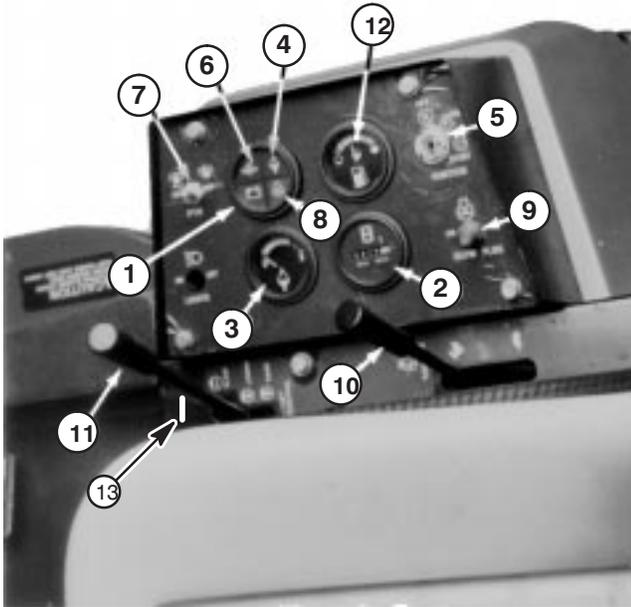

Figure 24
Amp Light (Fig. 24) — The amp light should be off when engine is running. If it is on, the charging system should be checked and repaired if necessary.
Hour Meter (Fig. 24) — Accumulated engine operating time registers on the hour meter.
Temperature Gauge and High Temperature Light (Fig. 24) — The coolant temperature gauge registers the coolant temperature in the system. If the temperature gets too high the engine will automatically shut off and the High Temperature Shutoff Light will light. When this happens, turn the ignition key off, check radiator for debris, check the fan belt and check the expansion tank for proper coolant level. The high temperature shutoff will automatically reset when the coolant temperature has reached a safe level.
Low Oil Pressure Light (Fig. 24) — If engine oil pressure falls below a safe level, the light glows. Stop engine and repair before resuming operation.
PTO Switch (Fig. 24) — Pull up on sleeve on toggle switch handle and move handle to ON to ENGAGE electric PTO clutch. Pull up on sleeve and move handle to OFF to DISENGAGE electric PTO clutch. The only time the PTO switch should be in the ENGAGE position is when the implement is down in operating position and ready to begin operation.
Ignition Key Switch (Fig. 24) — The ignition switch, which is used to start and stop the engine, has three positions: OFF, RUN and START. Rotate key clockwise
Glow Plug Switch and Indicator (Fig. 24) — Use to preheat engine cylinders prior to cold engine starting procedures — cylinders are preheated automatically during warm engine start operation. For cold starting, push switch lever upward and hold while watching indicator. Indicator will glow orange when the glow plugs are activated. Length of time necessary to preheat cylinders should be determined by atmospheric temperature; refer to Starting /Stopping Engine procedure.
Throttle (Fig. 24) — Throttle is used to operate engine at various speeds. Moving throttle forward increases engine speed — FAST; rearward decreases engine speed — SLOW. The throttle controls the speed of the cutter blades and, in conjunction with traction pedal, controls ground speed of the traction unit.
Hydraulic Lift Lever (Fig. 24) — The hydraulic lift lever has three positions: FLOAT, TRANSPORT and RAISE. To lower cutting unit to the ground, move lift lever forward into notch in seat platform — FLOAT. The FLOAT position is used for mowing and when machine is not in operation. To raise cutting unit, pull lift lever rearward to the RAISE position. After cutting unit is raised, allow lift lever to move to the TRANSPORT position. Cutting unit must be raised when driving from one work area to another.
Lift Lever Lock (Fig. 24) — Lock lift lever, in raised position, when performing maintenance on cutting unit.
1. Ensure parking brake is set, PTO switch is in OFF position and lift lever is in TRANSPORT or FLOAT position (Fig. 24). Remove foot from traction pedal and insure it is in neutral.
2. Move throttle control (Fig. 24) to full FAST position.
3. When temperature is below 15°C (60°F), push glow plug switch to ON position (Fig. 24) and hold for suggested interval.
4. Turn key in ignition switch to START position (Fig. 24). Release key immediately when engine starts and allow it to return to RUN position. Move throttle control to SLOW position.